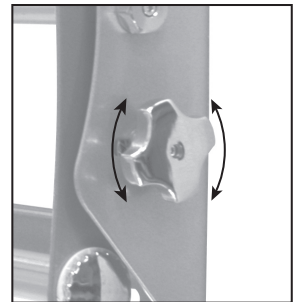

Fig. 7
4. To adjust the tilt position, have one person hold the display in position while another person loosens the two tilt adjustment knobs located on either side of the wall plate (Fig. 7). Once the knobs are loose, move the display to the desired angle. Re-tighten the knobs before releasing the display.